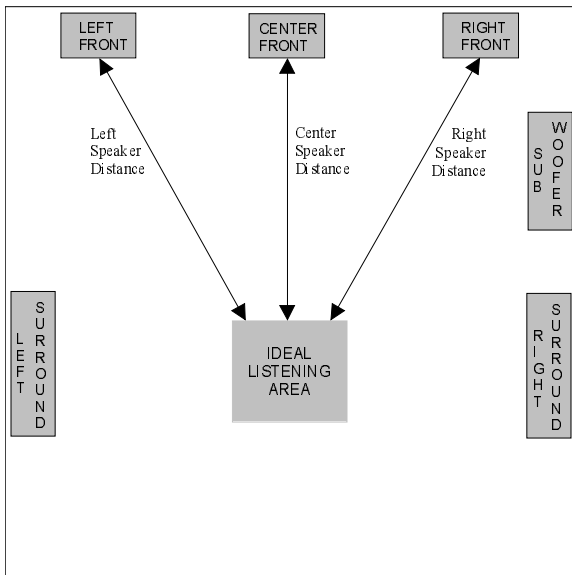

Figure 1
*NOTE: Refer to the Front Panel Drawing on the opposite page and Figures 1 & 2 on this page for the following steps.*